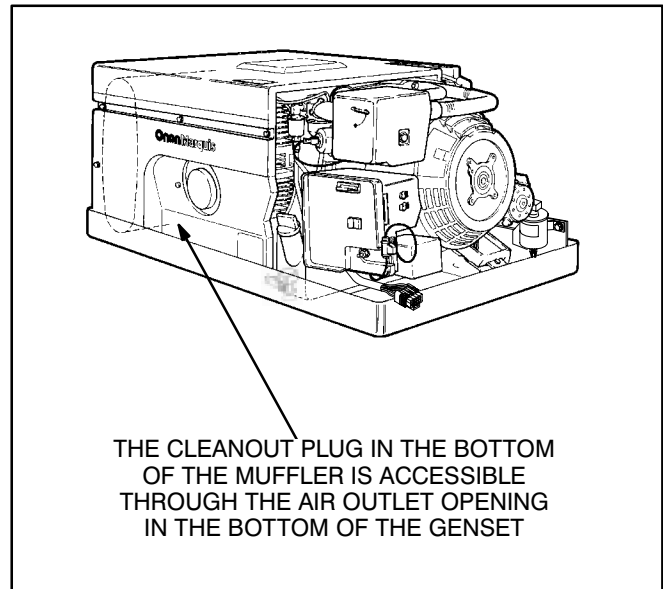

FIGURE 15. SPARK ARRESTOR CLEANOUT PLUG
1. Remove the cleanout plug from the bottom of the muffler (Figure 15).